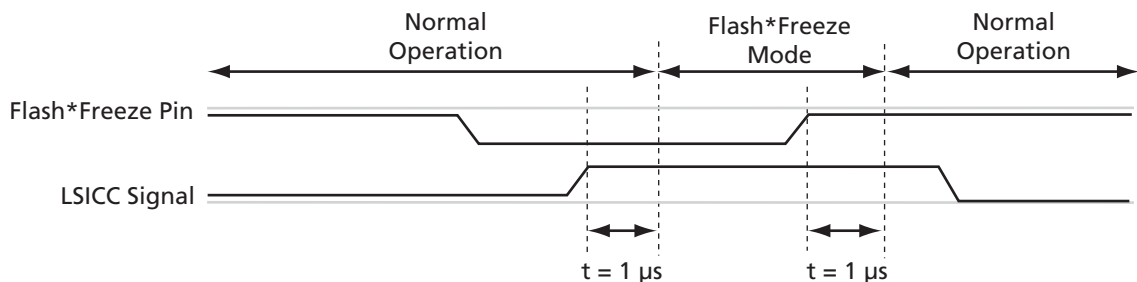

Figure 4-7 · Flash\*Freeze Mode Type 2 – Timing Diagram
Figure 4-7 shows the timing diagram for entering and exiting Flash\*Freeze mode type 2. After exiting Flash\*Freeze mode type 2 by deasserting the Flash\*Freeze pin, the LSICC signal must be deasserted by the user design. This will prevent entering Flash\*Freeze mode by asserting the Flash\*Freeze pin only. Refer to Table 4-1 on page 33 for Flash\*Freeze (FF) pin and LSICC signal assertion and deassertion values.